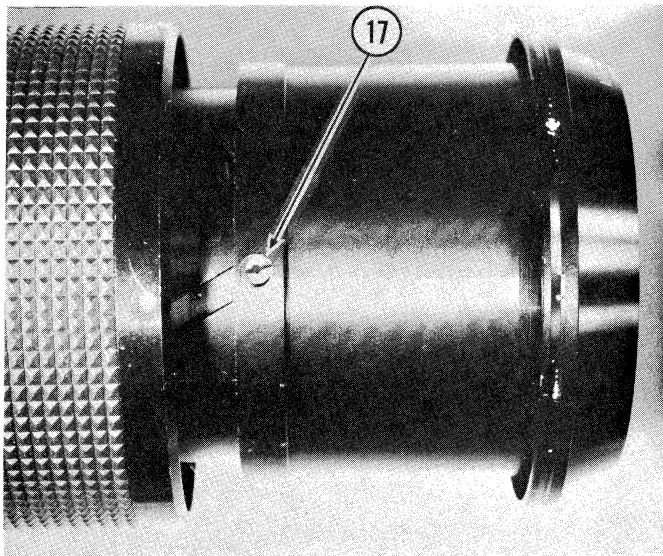

Fig. 21
- 2.3.14 Place thread sealant in threads inside Shaft (17). Align Zoom Ring (22) so that previously installed Roller (30) is situated exactly over Shaft (17), as shown in Fig. 21. Install Shaft (29).
- 4.2.16.5 Rotate either assembly to align scribed lines shown in Fig. 21.